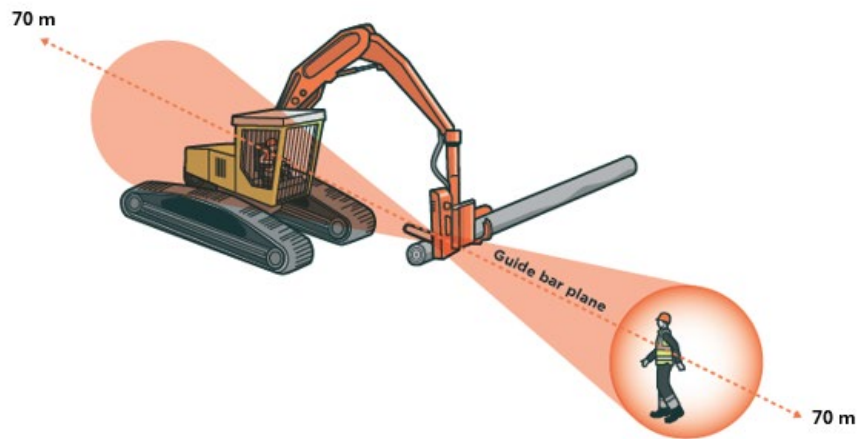

Figure 19: Minimum 70 metre exclusion zone to protect against chain shot injury³
20.3.8 This is due to risk of chain shot from the chain breaking (Figure 19).